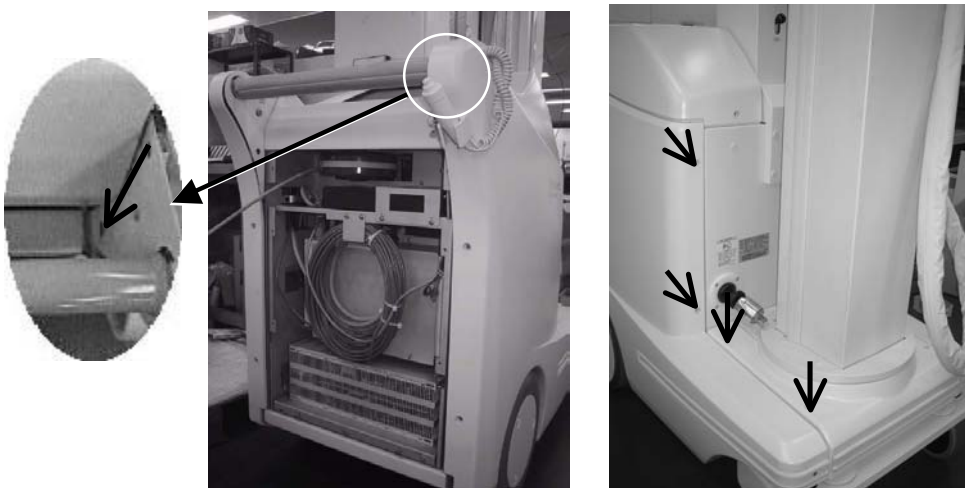

Fig. 6-3 Screw clamp positions of the side cover
4. Remove the seven screws shown in Fig. 6-3, then remove the side cover.